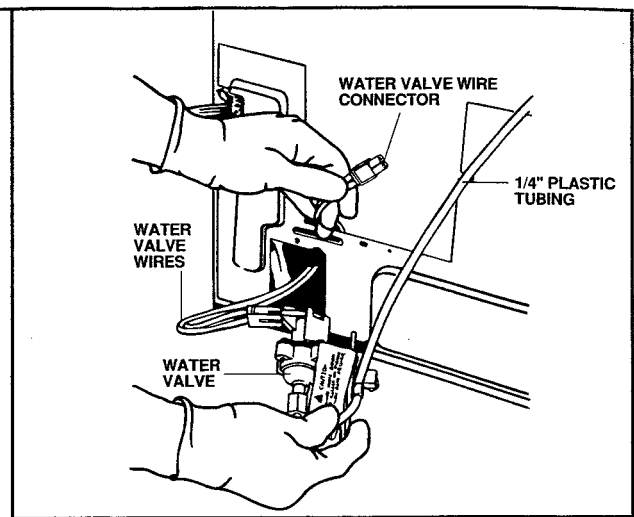

Figure 20
- c. Thread the water valve wires through the rectangular opening, as shown in Figure 20, taking care not to bend any existing tubes.